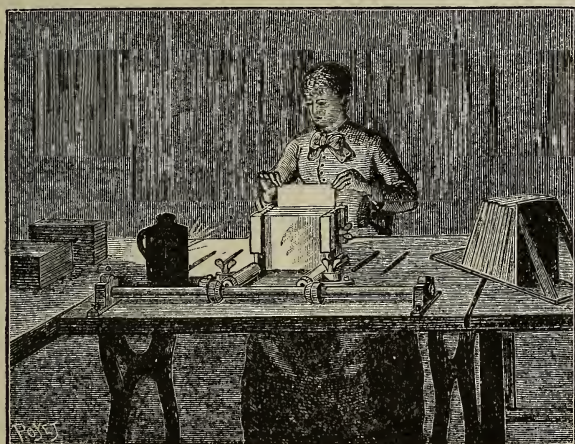

FIG. 4.
5. *Placing in Packages.*—The machine for packing (Fig. 4) is composed essentially of three grooved parts. Those underneath pass below the level of the table and have six grooves. Small paper quills are previously fixed exactly in these grooves. On each side of the grooves below rise two other movable vertical plates of grooves which correspond to the divisions of those of the table.